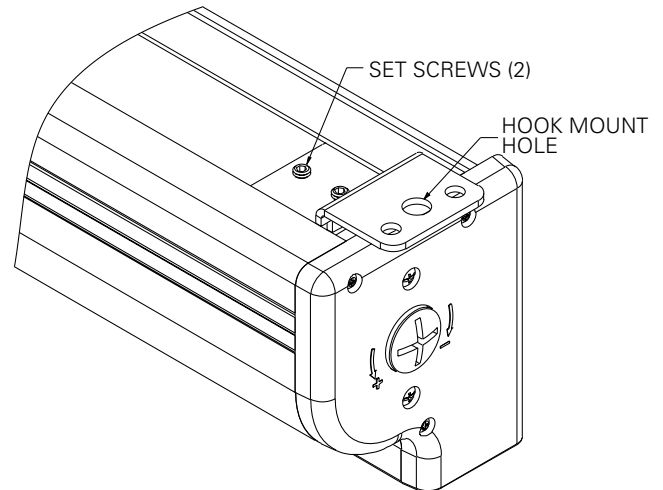

FIGURE 3
3. The top of the screen case has a channel that the ceiling hook brackets slide into. The brackets can be attached anywhere within 12" of the end of the case. Loosen the set screws on the brackets and slide the brackets to the desired location. Lock the brackets in place by tightening two set screws. Refer to figure 3.